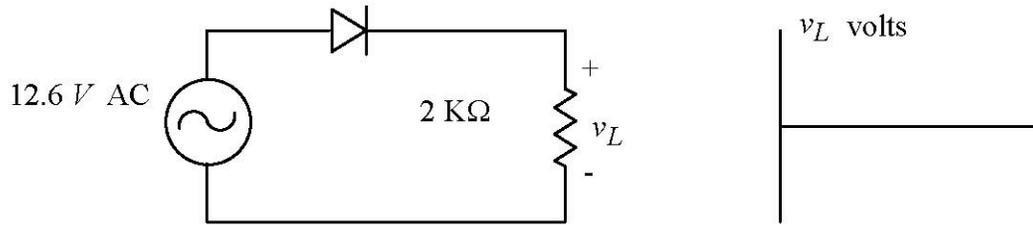

Figure 7 – Half-Wave Rectifier
- Give an approximate sketch of the expected voltage waveform $v_L(t)$ for the circuit shown in Figure 7. The source produces a sinusoidal waveform with a maximum voltage of 12.6 V. Assume that the diode has a turn-on voltage of 0.7 V and that the reverse saturation current is approximately zero.
4. Next, build the circuit shown in Figure 7 using the secondary voltage as the AC source and using a 1N4002 diode and a of 2-k Ω resistor. Measure the load voltage $v_L(t)$ with an oscilloscope. Save and record the resulting waveform.